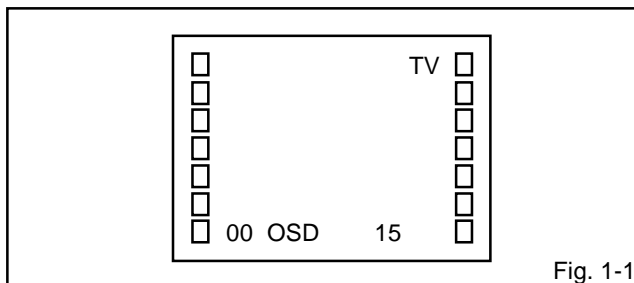

Fig. 1-1
1. In the condition of NO indication on the screen. Press the VOL. DOWN button on the set and the Channel button (9) on the remote control for more than 1 second to appear the adjustment mode on the screen as shown in Fig. 1-1.
4. Activate the adjustment mode display of Fig. 1-1 and press the channel button (02) on the remote control to select "RF.AGC".
3. Activate the adjustment mode display of Fig. 1-1 and press the channel button (01) on the remote control to select "CUT OFF".
4. Activate the adjustment mode display of Fig. 1-1 and press the channel button (13) on the remote control to select "R.BIAS".